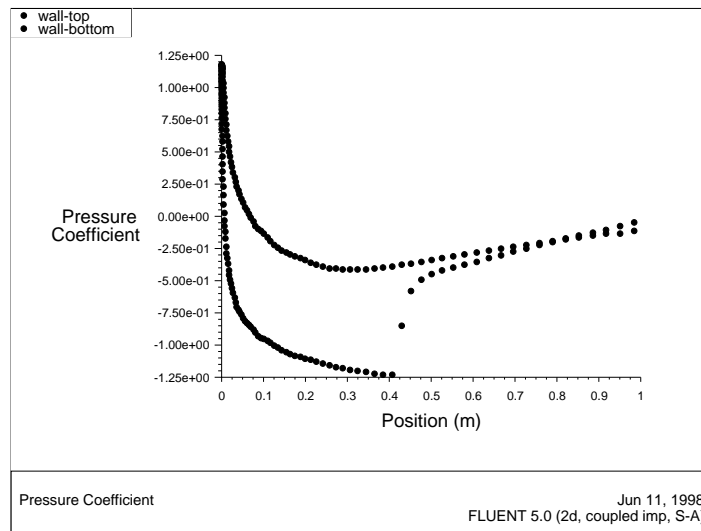

Figure 2.14: XY Plot of Pressure
3. Plot the pressure distribution on the airfoil (Figure 2.14).